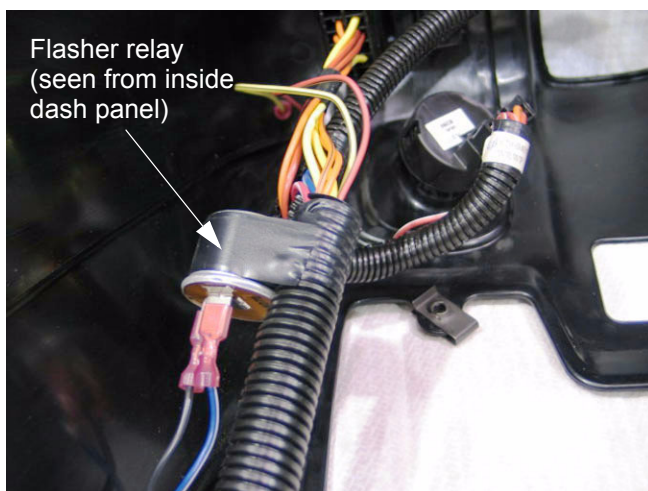

Figure 2.3
- 2.3. Taped to the harness, just above the fuse center is the flasher relay, in the hazard light circuit. See Figure 2.3.